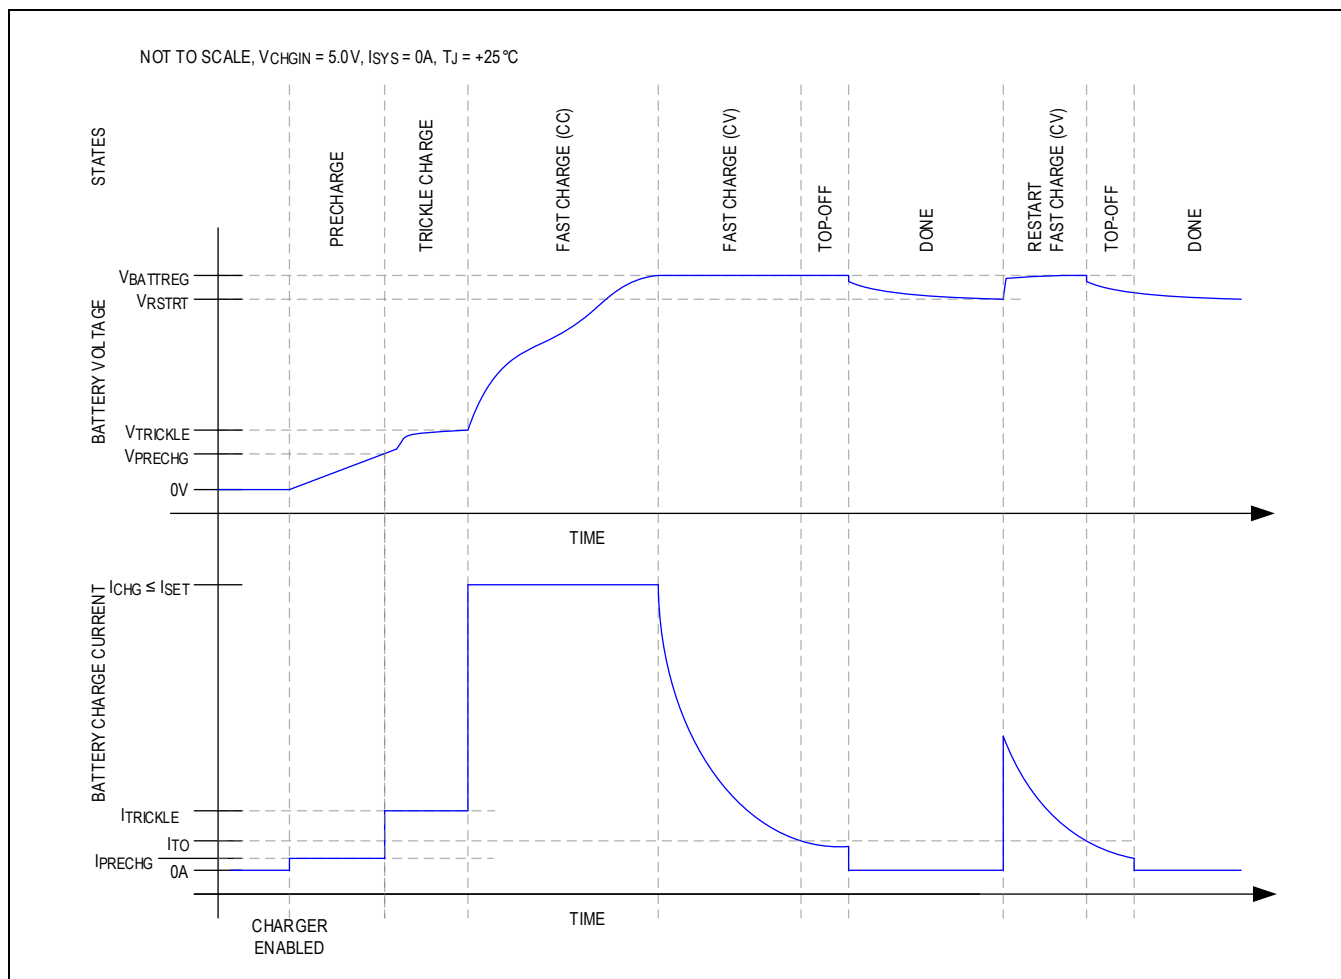
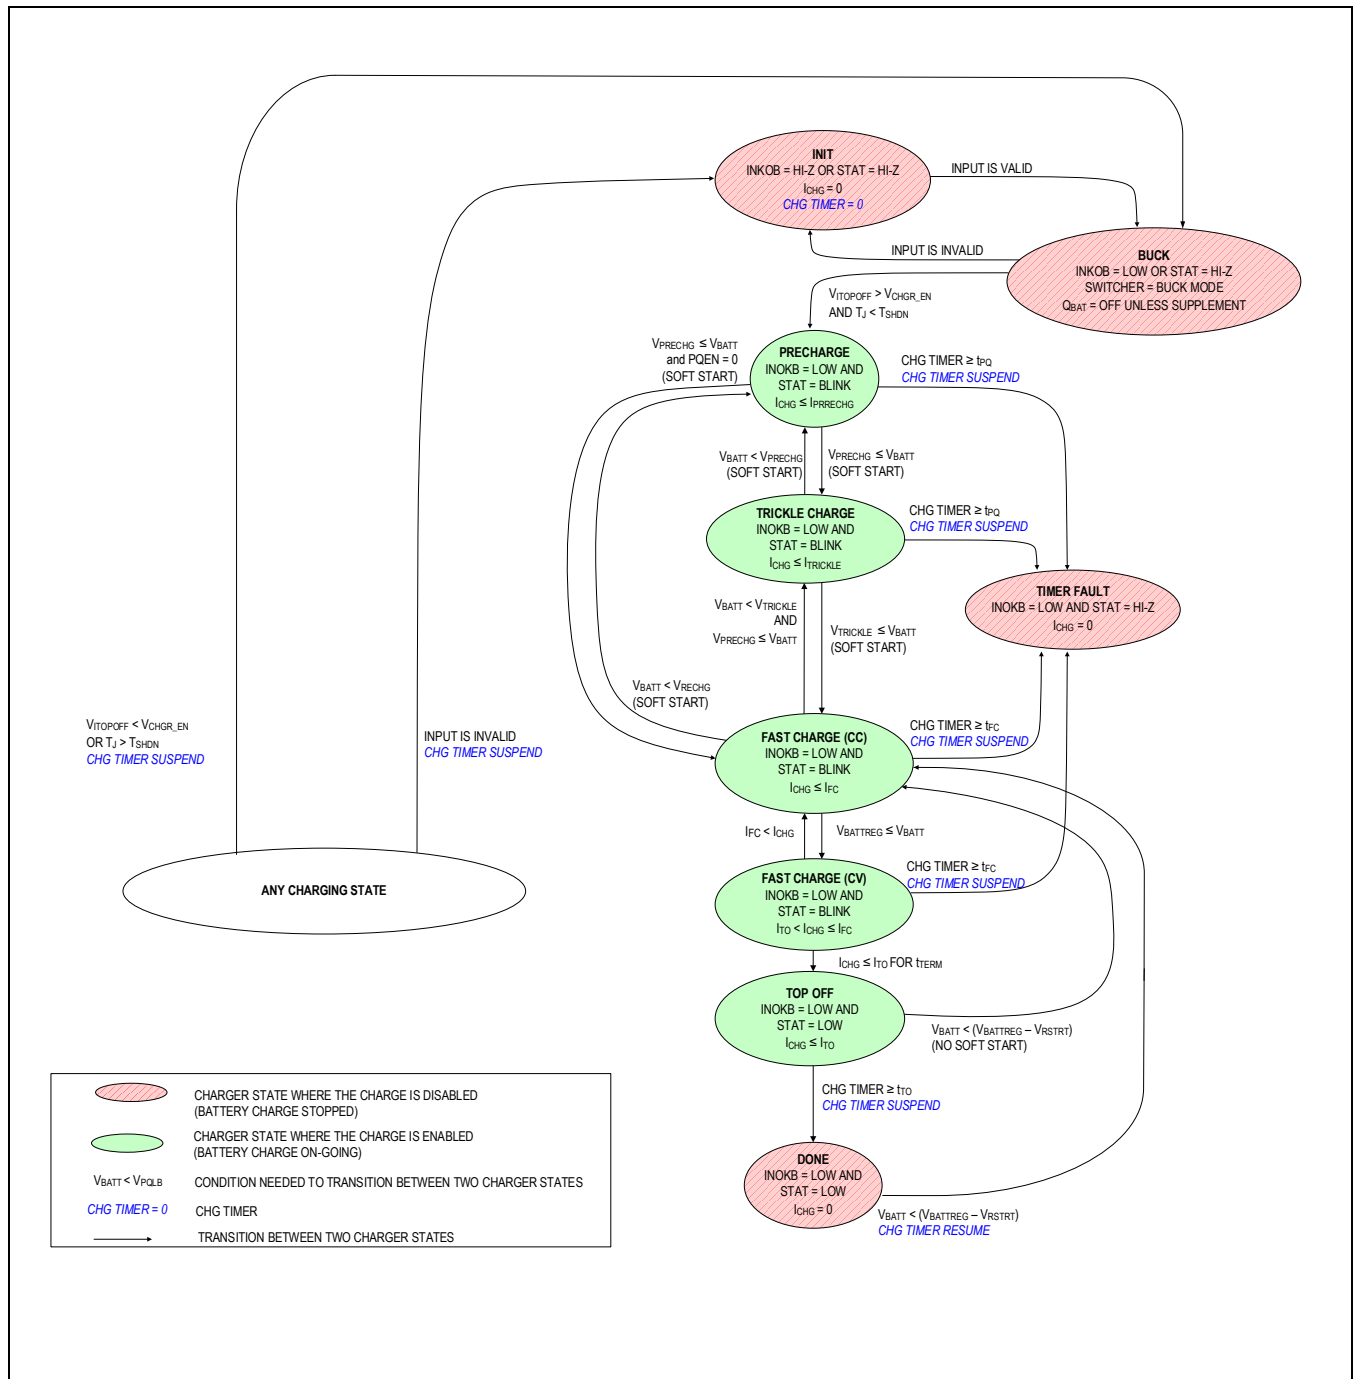

Figure 5. Li+/Li-Poly Charge Profile
Figure 6. Charger State Diagram
The MAX77751 utilizes several charging states to safely and quickly charge batteries, as shown in Figure 5 and Figure 6. Figure 5 shows an exaggerated view of a Li+/Li-Poly battery progressing through the following charge states when there is no system load and the die and battery are close to room temperature: precharge → trickle → fast-charge → top-off → done.
From any state shown in Figure 6 except thermal shutdown, the INIT state is entered whenever the charger inputs that CHGIN is invalid or the charger timer is suspended.
The chip has a state where battery charging is disabled while the charger input CHGIN is valid. The state is called buck state. Entering or leaving buck state is controlled by the voltage of the ITOPOFF pin. If the voltage of this pin is pulled down by an external device (i.e., MCU) under  $V_{CHGR\_EN}$ , the chip goes to the buck state from any state if CHGIN is valid, as shown in Figure 6. In the buck state, charging is disabled, which means  $Q_{BAT}$  is off, unless it is in supplement mode. If the voltage of this pin is over  $V_{CHGR\_EN}$ , the chip gets out of the buck state and resumes charging. Note that only when CHGIN is valid, charging can be enabled or disabled. Therefore, the external device (i.e., MCU) should check using the INOKB signal if CHGIN is valid before trying to enable or disable charging.
As shown in Figure 6, the precharge state occurs when the battery voltage is less than  $V_{PRECHG}$ . In the precharge state, charge current into the battery is  $I_{PRECHG}$ .
As shown in Figure 6, the trickle charge state occurs when  $V_{BATT} > V_{PRECHG}$  and  $V_{BATT} < V_{TRICKLE}$ .
As shown in Figure 6, the fast-charge constant current (CC) state occurs when the battery voltage is greater than the trickle threshold and less than the battery regulation threshold ( $V_{TRICKLE} < V_{BATT} < V_{BATTREG}$ ).
As shown in Figure 6, the fast-charge constant voltage (CV) state occurs when the battery voltage rises to  $V_{BATTREG}$  from the fast-charge CC state.
In the fast-charge CV state, the battery charger maintains  $V_{BATTREG}$  across the battery, and the charge current is less than or equal to  $I_{FC}$ . As shown in Figure 5, the charger current decreases exponentially in this state as the battery becomes fully charged.
As shown in Figure 6, the top-off state can only be entered from the fast-charge CV state when the charger current decreases below  $I_{TO}$  for  $t_{TERM}$ . In the top-off state, the battery charger tries to maintain  $V_{BATTREG}$  across the battery, and typically, the charge current is less than or equal to  $I_{TO}$ .
As shown in Figure 6, the battery charger enters its done state after the charger has been in the top-off state for  $t_{TO}$ .
The battery charger provides a charge timer to ensure safe charging. As shown in Figure 6, the charge timer prevents the battery from charging indefinitely. The time that the charger is allowed to remain in each of its prequalification states is  $t_{PQ}$ . The time that the charger is allowed to remain in the fast-charge CC and fast-charge CV states is  $t_{FC}$ . Finally, the time that the charger is in the top-off state is  $t_{TO}$ . Upon entering the timer fault state, STAT becomes Hi-Z.
In the timer fault state, the charger is off. The charger input can be removed and re-inserted to exit the timer fault state (see the “any state” bubble in the lower left of Figure 6).
As shown in Figure 6, the thermal shutdown state occurs when the battery charger is in any state and the junction temperature ( $T_J$ ) exceeds the device's thermal shutdown threshold (TSHDN). When  $T_J$  is close to  $T_{REG}$ , the charger folds back the charge current to 0A so that the charger is effectively off (see the Thermal Foldback section).